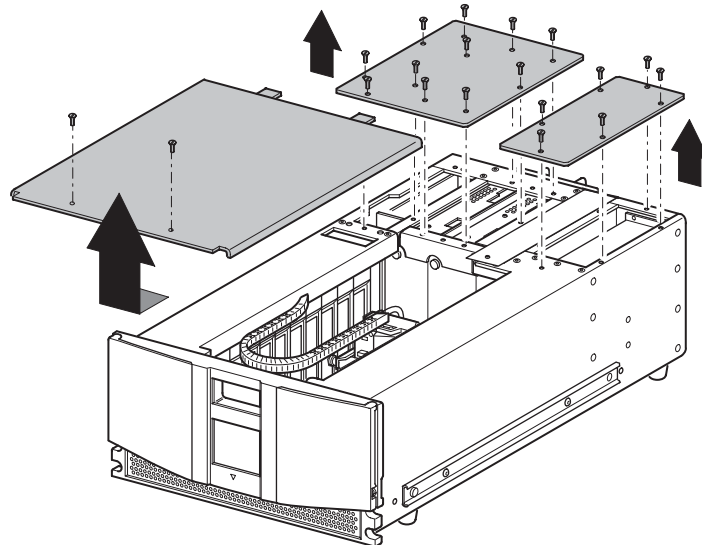

Figure 2-6: Removing the top front, left, and right rear covers
The library has three inside covers (see Figure 2-6):
1. Remove the two screws that secure the cover to the library chassis (see Figure 2-6).